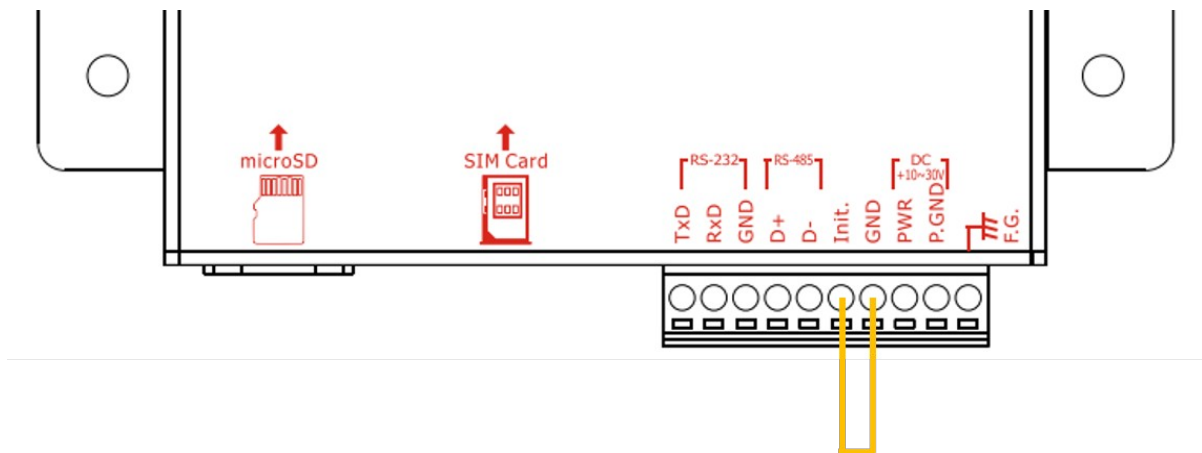

Figure 6.10.17
- A. Determine that the 4th pin and the 5th pin on the GTP-541M are successfully connected, as shown in Figure 6.10.17